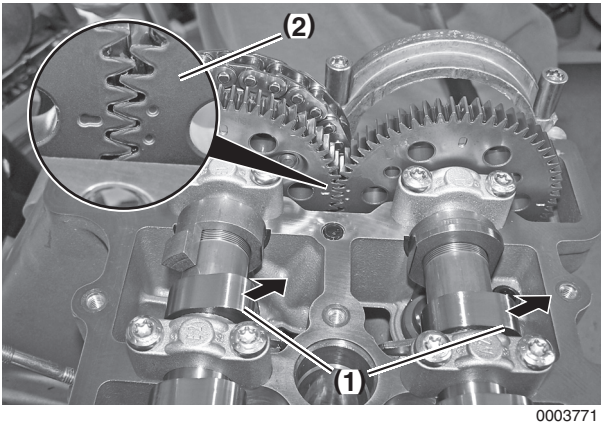

Figure 5-72
2. Rotate the crankshaft in the normal running direction until No. 1 cylinder is at TDC of the power stroke. The front lobe of each camshaft (**Figure 5-72, (1)**) will be facing the exhaust side.
3. Verify position by checking that the camshaft timing marks on gears are aligned (**Figure 5-72, (2)**). The single mark on intake camshaft gear must fall between the two marks on the exhaust camshaft gear.